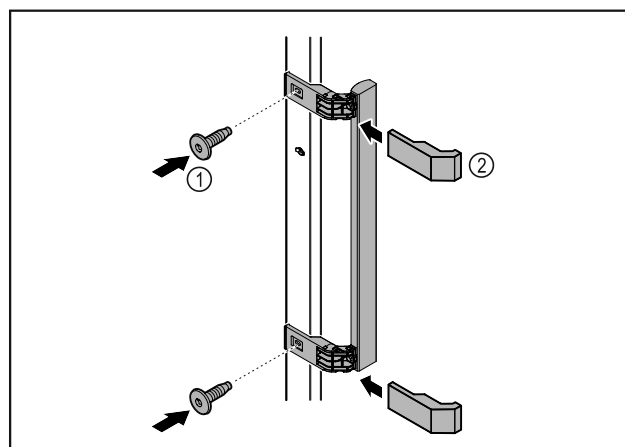

Fig. 7
- Attach handle from accessory kit to the door using the screws supplied Fig. 7 (1).
- Put on cover Fig. 7 (2).